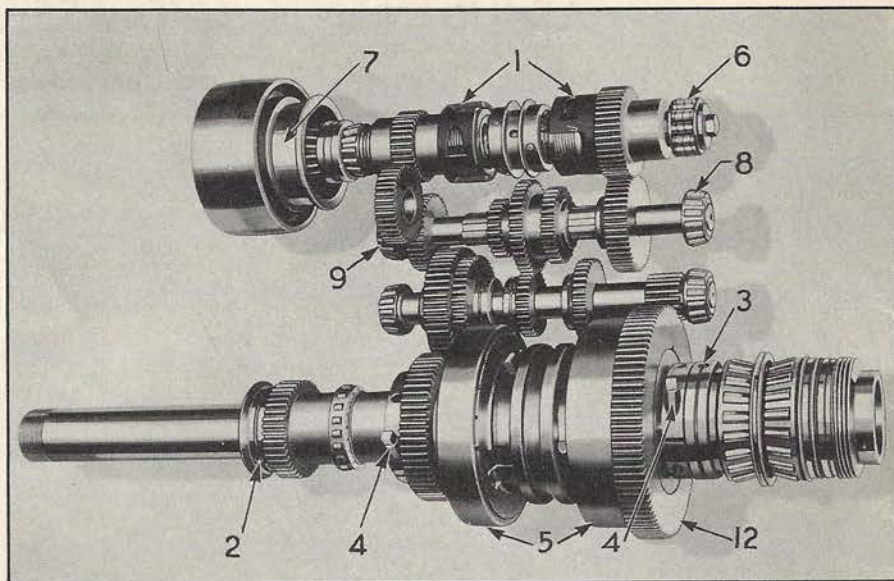

Fig. 14. Six Speed Head of No. 3 Turret Lathes
High-Low Clutch: No. 3 Turret Lathe Only; Fig. 14
These two clutches are of the cone type. To adjust them loosen screws (4) Fig. 14 which clamp the threaded and split collars. Rotate the latter and then clamp screws (4) again before trying the adjustment.
Pulley Shaft (6) Fig. 14, 15, 16